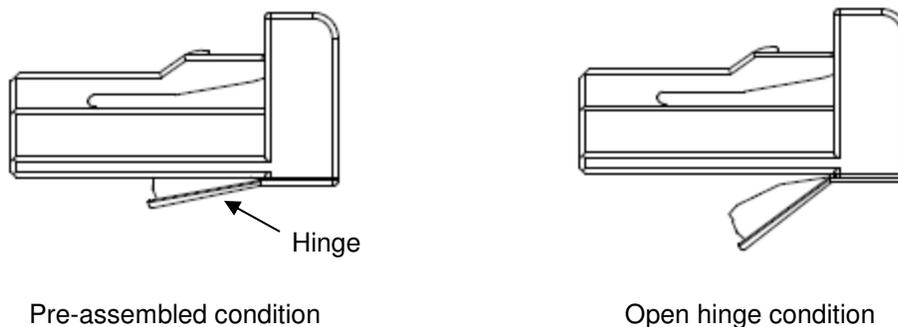
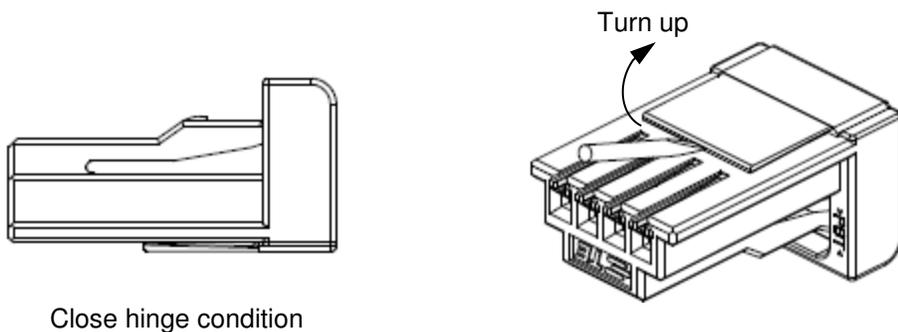

Fig.3
Fig.4
- (1) Confirm the position of the hinge part. Confirmation that the hinge part is in pre-assembled condition or opened condition (See Fig. 3). If being the condition that the hinge part was closed. Using a screw driver such as 1mm blade screw one. Turn up hinge part like the following Fig. 4 and make it pre-assembled condition or opened condition.
When the 0.64II female contact requires insertion or extraction, the hinge part must be in the pre-assembled condition. The insertion or extraction cannot be done in final lock condition. Using a screw driver such as 1mm blade screw one, turn up hinge part as Fig.4 and make it pre-assembled condition or opened condition.
Confirm the hinge part is in pre-assembled condition or opened condition. When the hinge part is in final lock condition, it must be changed to pre-assembled condition or opened condition (See Fig. 4). The extraction cannot be done in final lock condition.